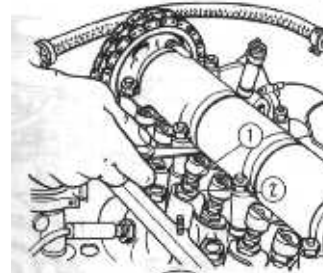

Fig 33. Adjusting valve clearances: 1- adjusting bolt, 2- adjusting bolt locknut
- Adjust the rocker-to-cam clearances of the exhaust valve on the No. 4 cylinder (8th cam) and of the intake valve on the No. 3 cylinder (6th cam); for this purpose, loosen locknut 2 (Fig. 33) and rotate adjusting bolt 1 to set the required clearance, using a flat feeler gauge inserted between the cam and the rocker (the feeler gauge should move in this case with a slight biting)